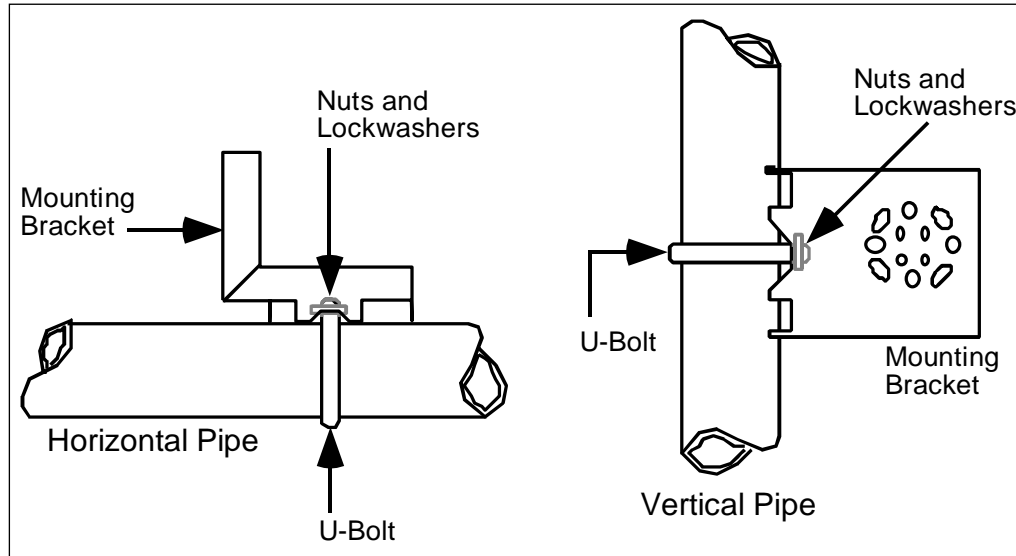

Figure 6 – ST 700 Standard Transmitter - Angle Mounting Bracket Secured to a Horizontal or Vertical Pipe
1. Refer to Figure 6. Position the bracket on a 2-inch (50.8mm nominal diameter, 2.38” (60.4mm) actual OD) for a horizontal or vertical pipe, and install a “U” bolt around the pipe and through the holes in the bracket. Secure the bracket with the nuts and lock washers provided.